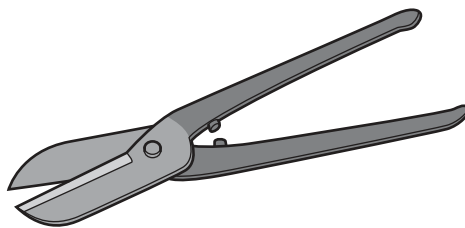

Fig. 11.3
- (ii) Name the tool shown in Fig. 11.3 that could be used to cut out the mild steel sheet.